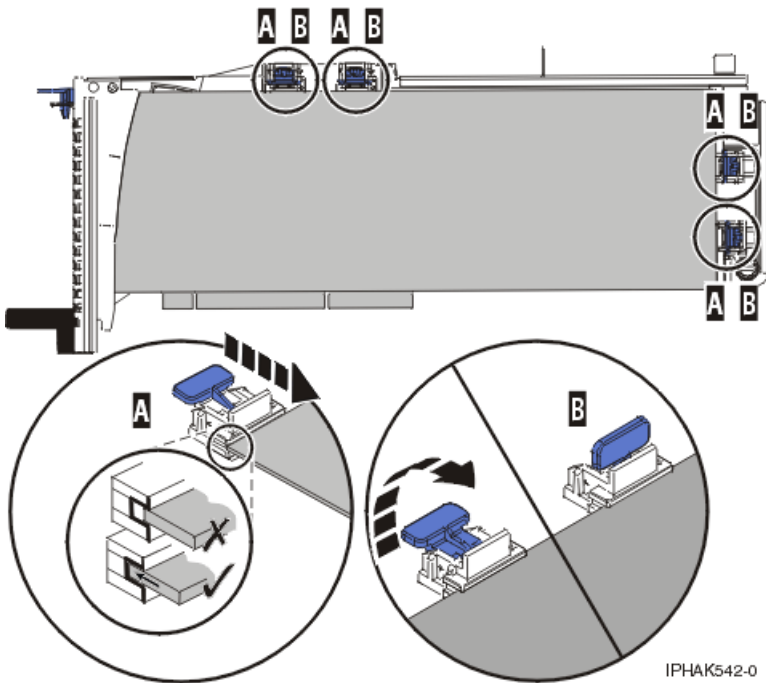

Figure 54. Long adapter in the PCI adapter cassette with the supports and stabilizer in place
- 3) Place and lock the retainers (**B**). See Figure 54.